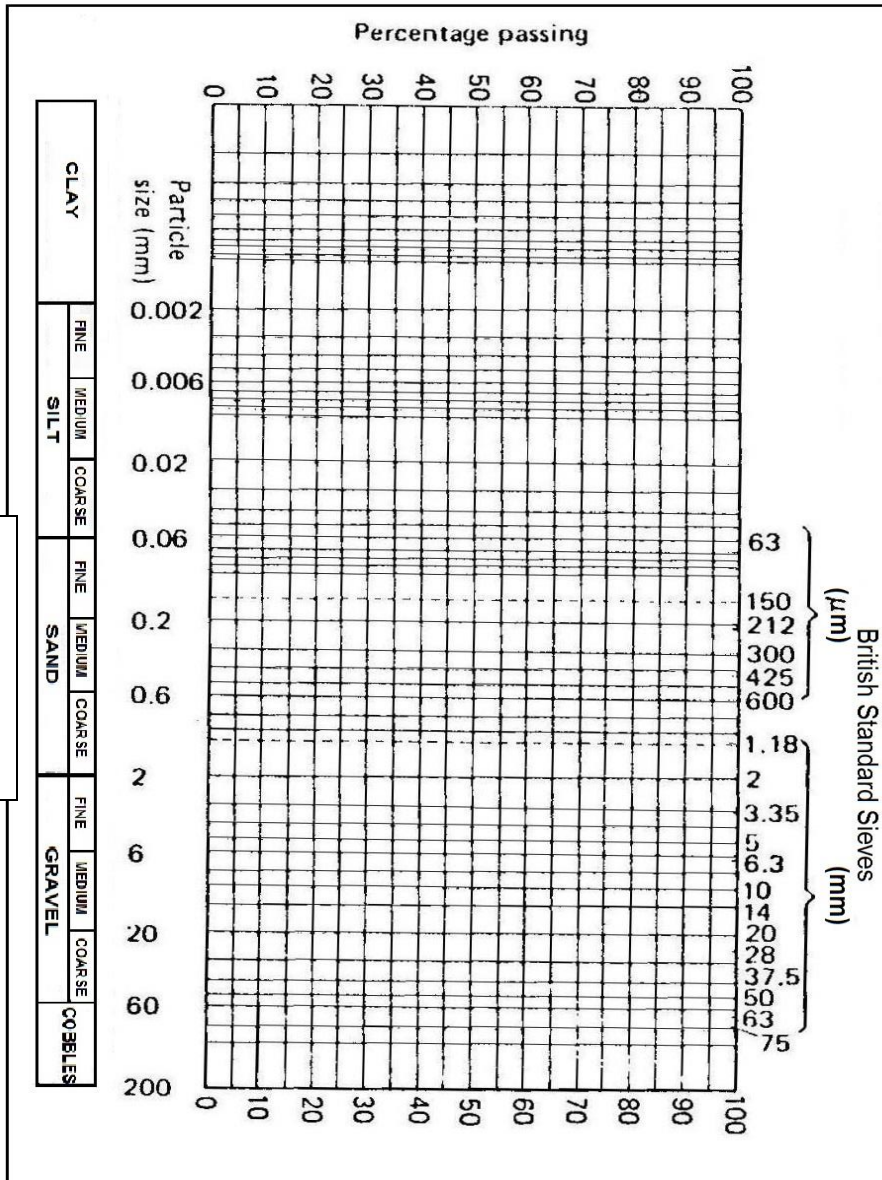

Fig.3
- (ii) Use the computed results to draw a grading curve on figure 3,